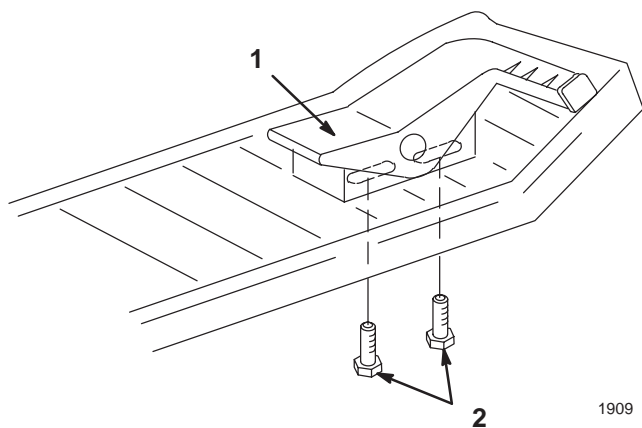

Figure 9
2. Slide the pedal forward for faster reverse speed or backward for faster forward speed (Fig. 9).